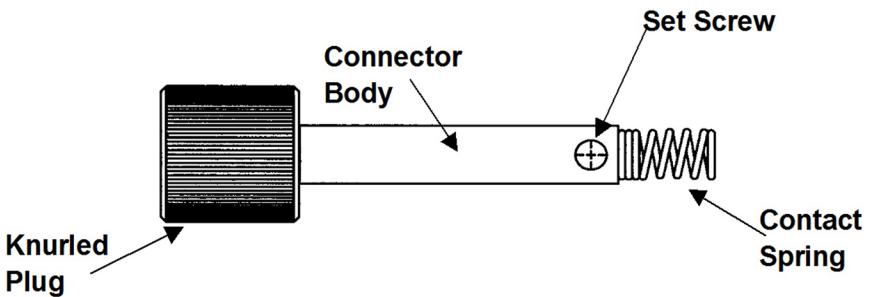

Figure 4: High Voltage Connector (MEB)
2. Slide knurled plug onto cable with threaded end toward end of cable as shown in Figure 4.